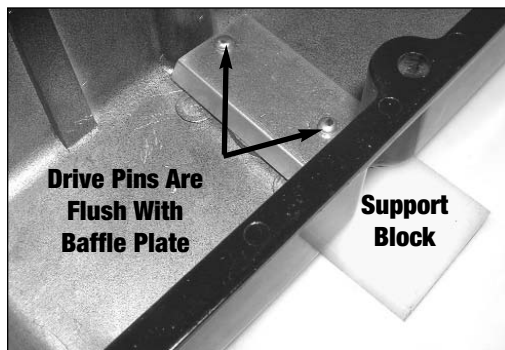

Fig 1. - Baffle Plate Installation
- For applications using breathers/PCV, attach the breather baffles using the supplied drive pins. Using a punch and hammer, tap pins in until fully seated (**See Fig. 1**). On valve covers without breather holes, the breather holes must be drilled/machined before attaching the baffles.
CAUTION! WHEN DRIVING THE PINS INTO THE VALVE COVER, YOU MUST SUPPORT THE BACK SIDE OF THE VALVE COVER WITH A BLOCK OF WOOD, OR OTHER NON-MARRING SURFACE. FAILURE TO DO SO COULD RESULT IN DAMAGE TO THE COVER, SUCH AS CRACKS, DENTS, ETC. (**See Fig. 1**).